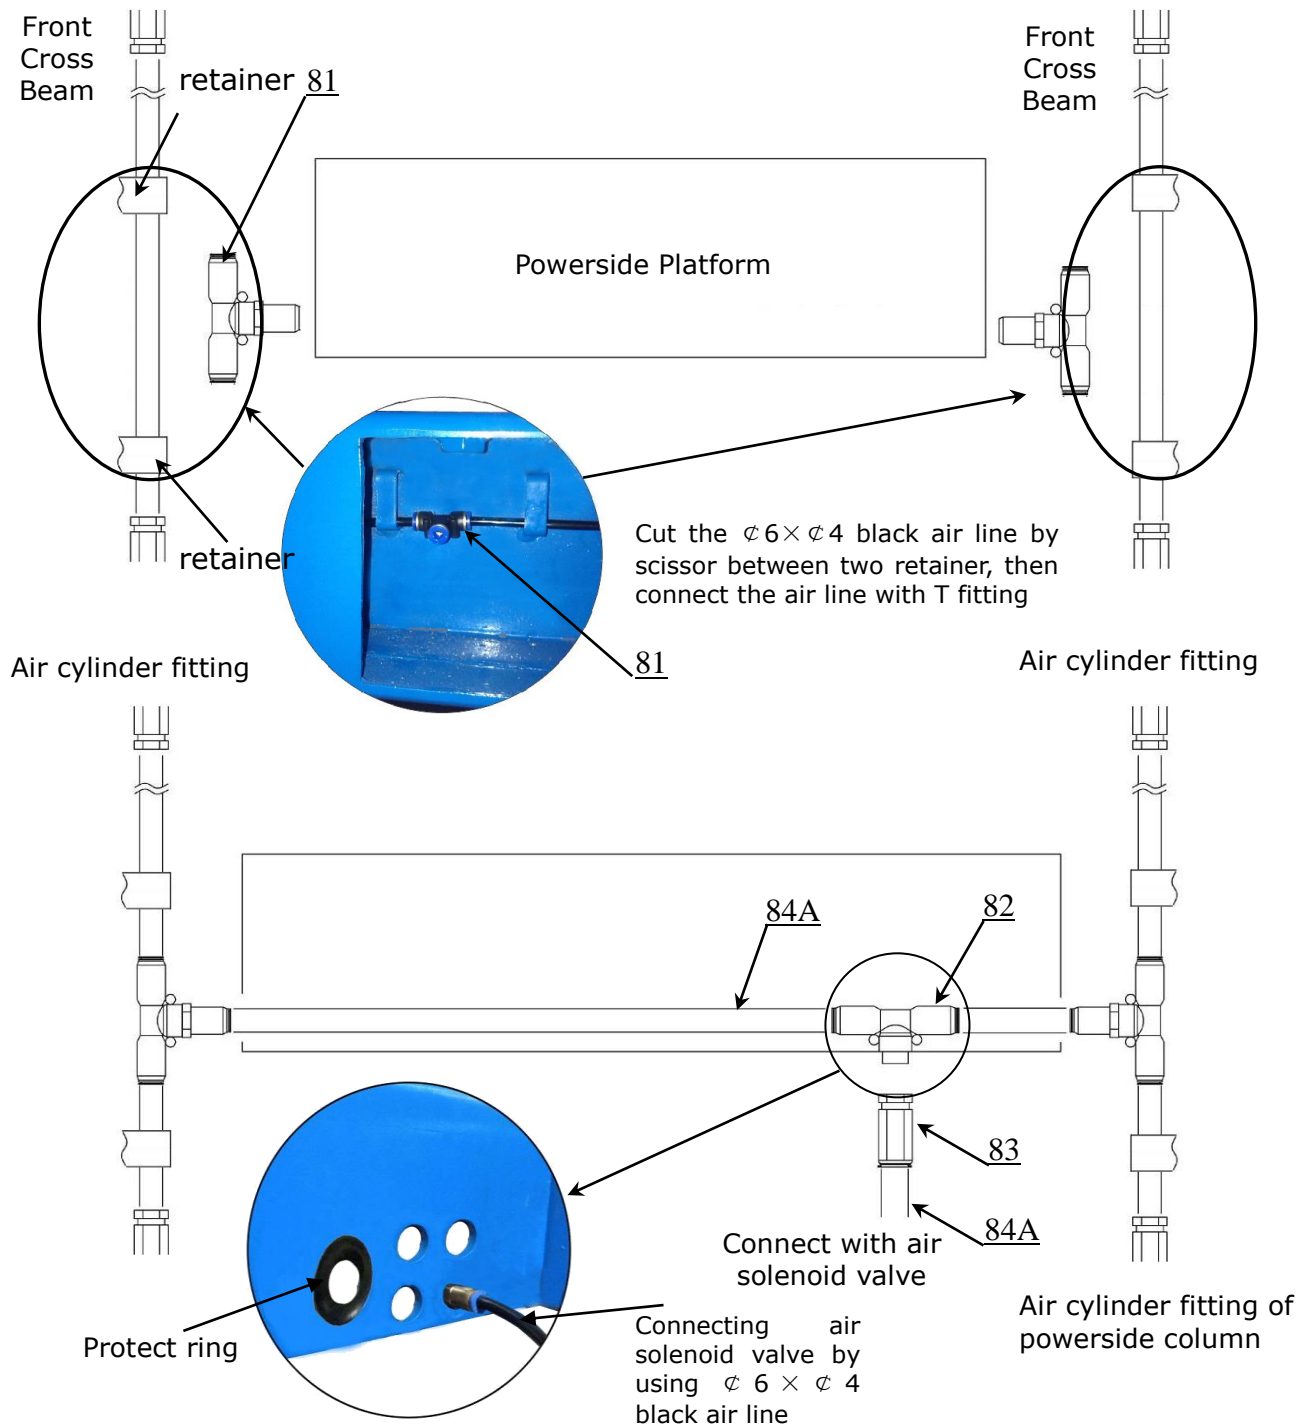

Fig. 27
2. Connecting front and rear Cross Beam cylinders by using $\phi 6 \times \phi 4$ black air line (See Fig. 27).
3. Connecting air solenoid valve by using $\phi 6 \times \phi 4$ black air line (See Fig. 27).